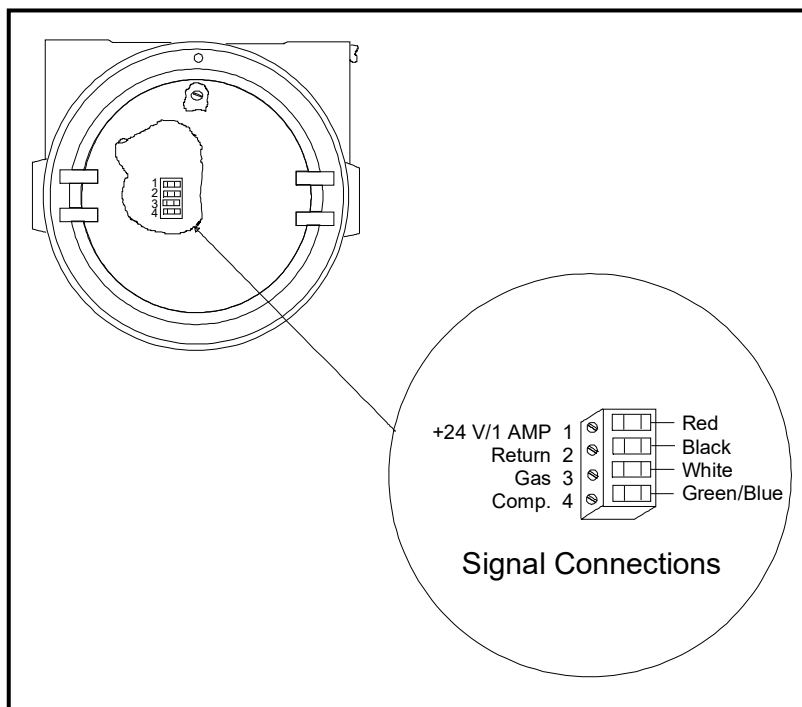

Figure 1: Wiring Connections to TBI Block
3. Loosen the TBI side screws and insert the colored wires into the corresponding openings on top of TBI. See Table 2 below for color-coded pin designations, and Figure 1 on page 5 for the TBI location.